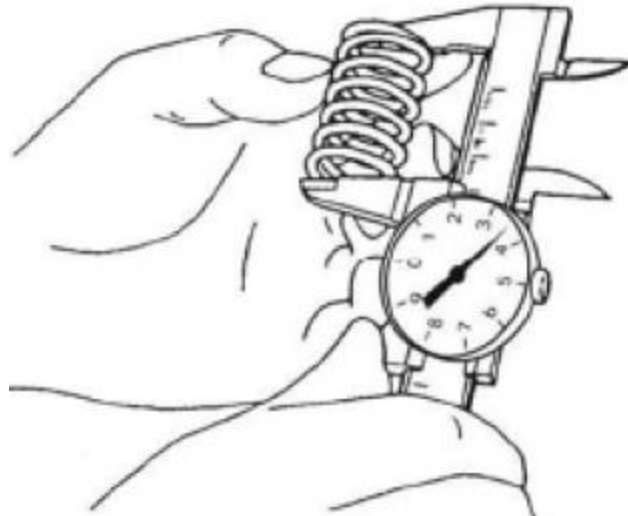

Figure 58. Valve Spring Measurement
5. Use a caliper to measure the length of the spring (Figure 58). See Valve Spring Mechanical chart for the service limit.